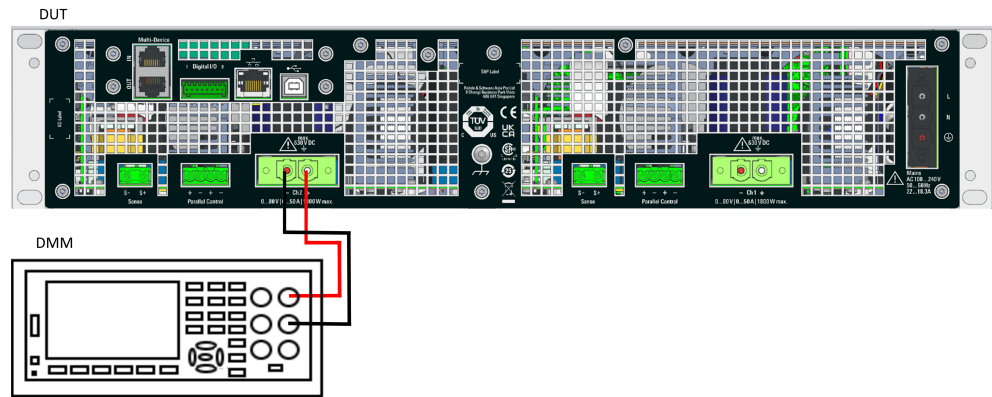
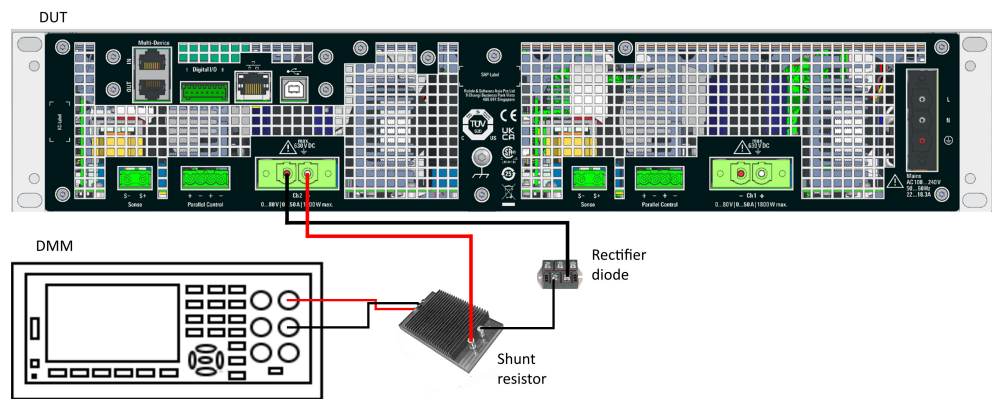
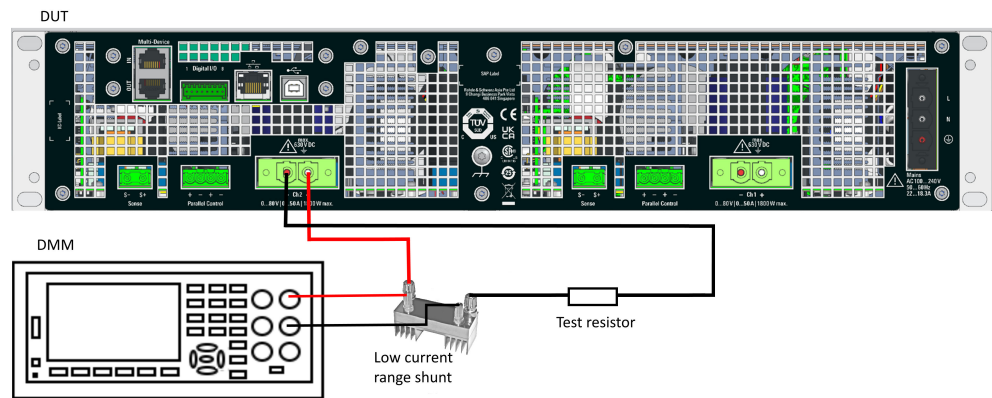
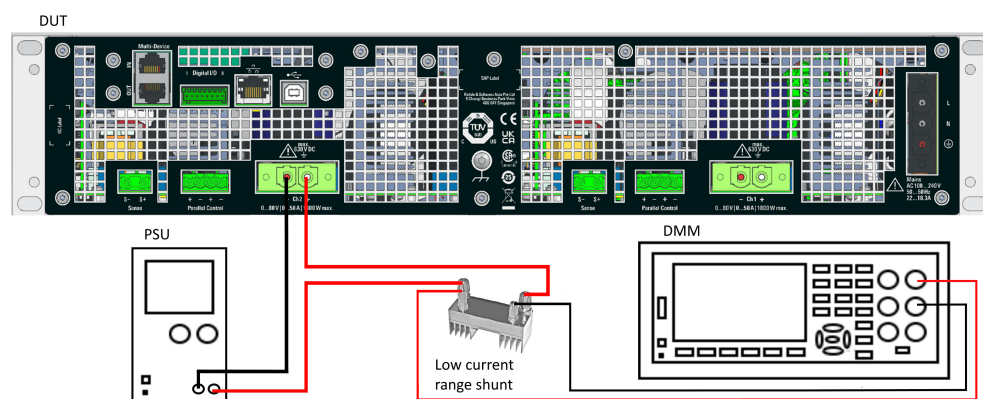

Figure 5-32: Voltage adjustment setup
Figure 5-33: High current adjustment
Figure 5-34: Low current adjustment
Figure 5-35: Sink current adjustment setup
See Figure 5-32, Figure 5-33, Figure 5-34 and Figure 5-35.
4. Depending on the types of adjustment (voltage or current), set up the instruments illustrated in Figure 5-32 or Figure 5-33 or Figure 5-34 or Figure 5-35.
Depending on the selected channel adjustment, check that you have the correct setup illustrated in Figure 5-32 or Figure 5-33 or Figure 5-34 or Figure 5-35.